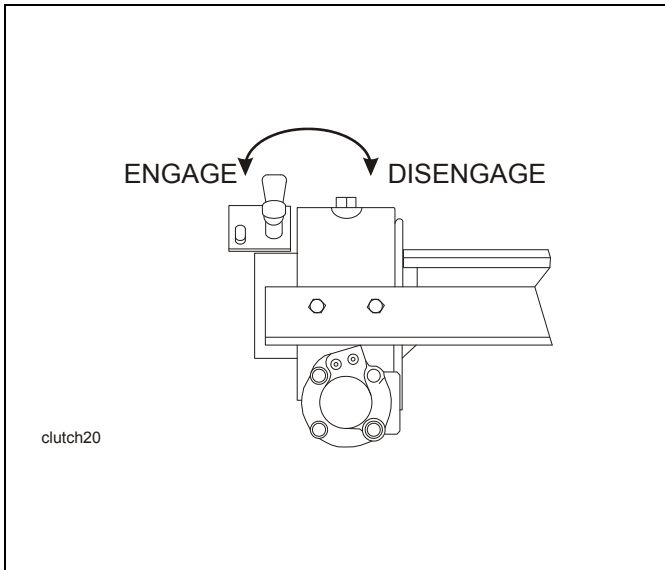

Figure 3-5: 20,000# Winch Clutch
- b. The 20,000# winch clutch handle has two positions (See Figure 3-5.):